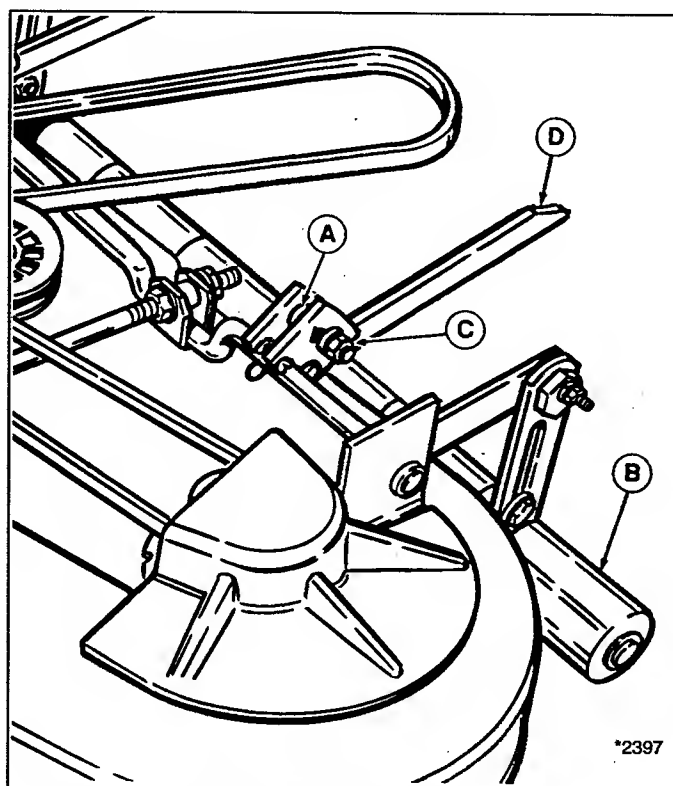

Figure 34. Transport Height Adjustment
3. Loosen nut (C, figure 34) so trailing arms are loose. Mower must be resting on rollers with no weight on trailing arms.
See figure 34.